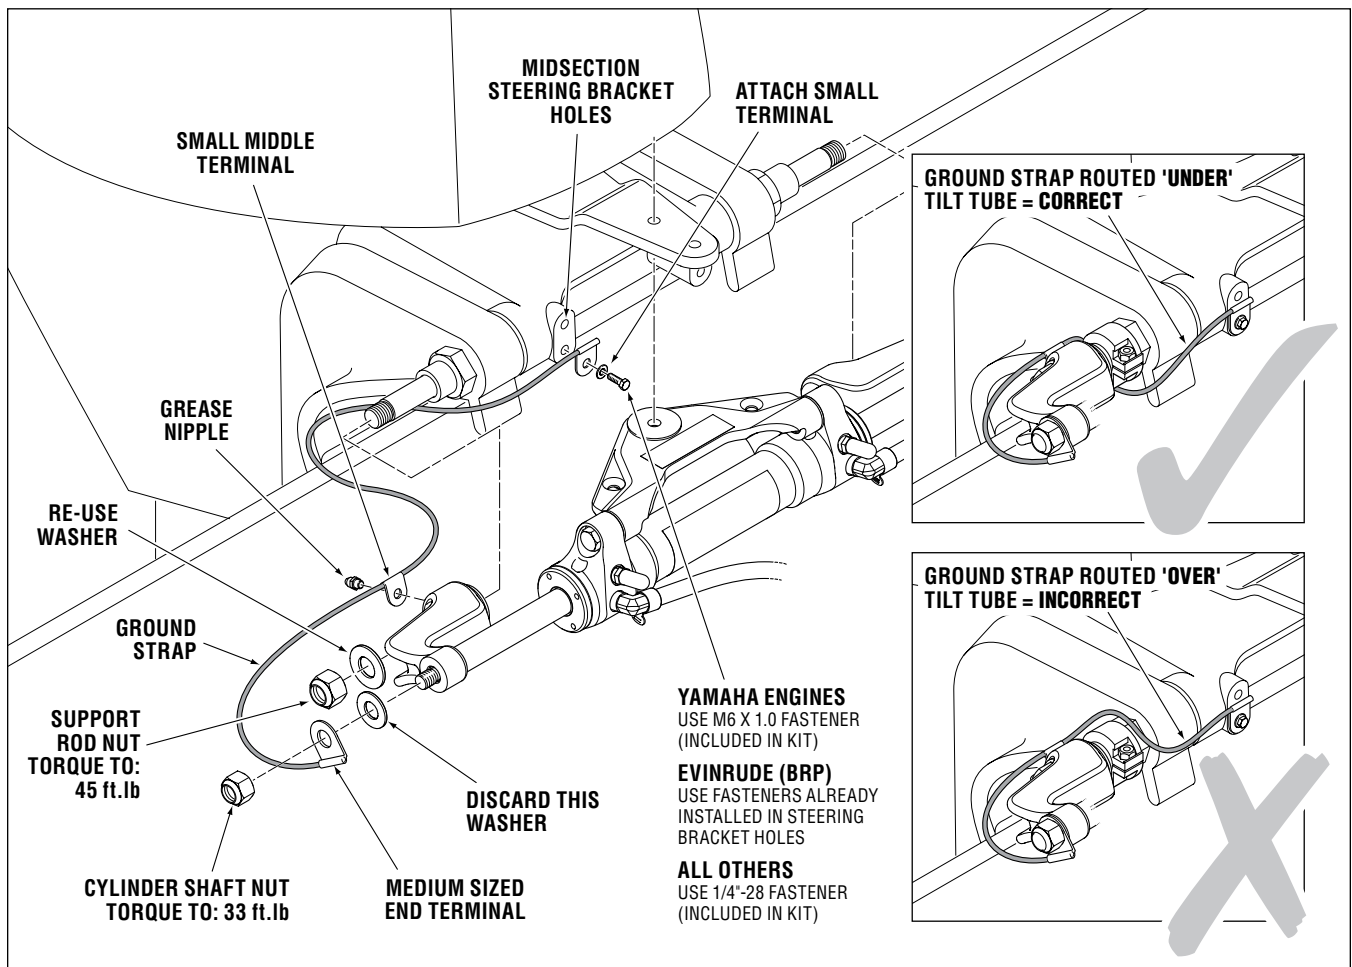

Figure 6. Ground Strap Installation.
- Install ground strap to cylinder as per figure 6.